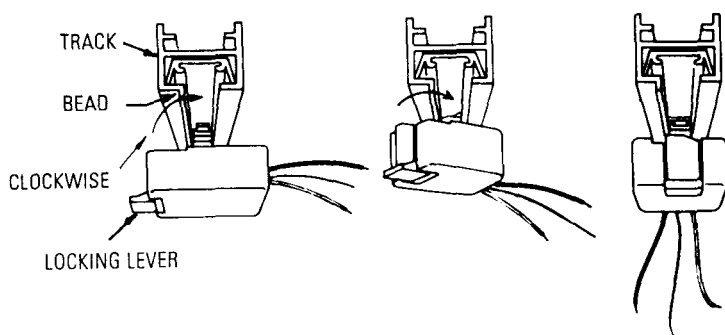

FIG. 2
3. Insert FITTING into TRACK (see Fig. 2) with LOCKING LEVER on same side of track as BEAD.
4. Rotate FITTING 90° clockwise until LOCKING LEVER snaps into place (see Fig. 2).